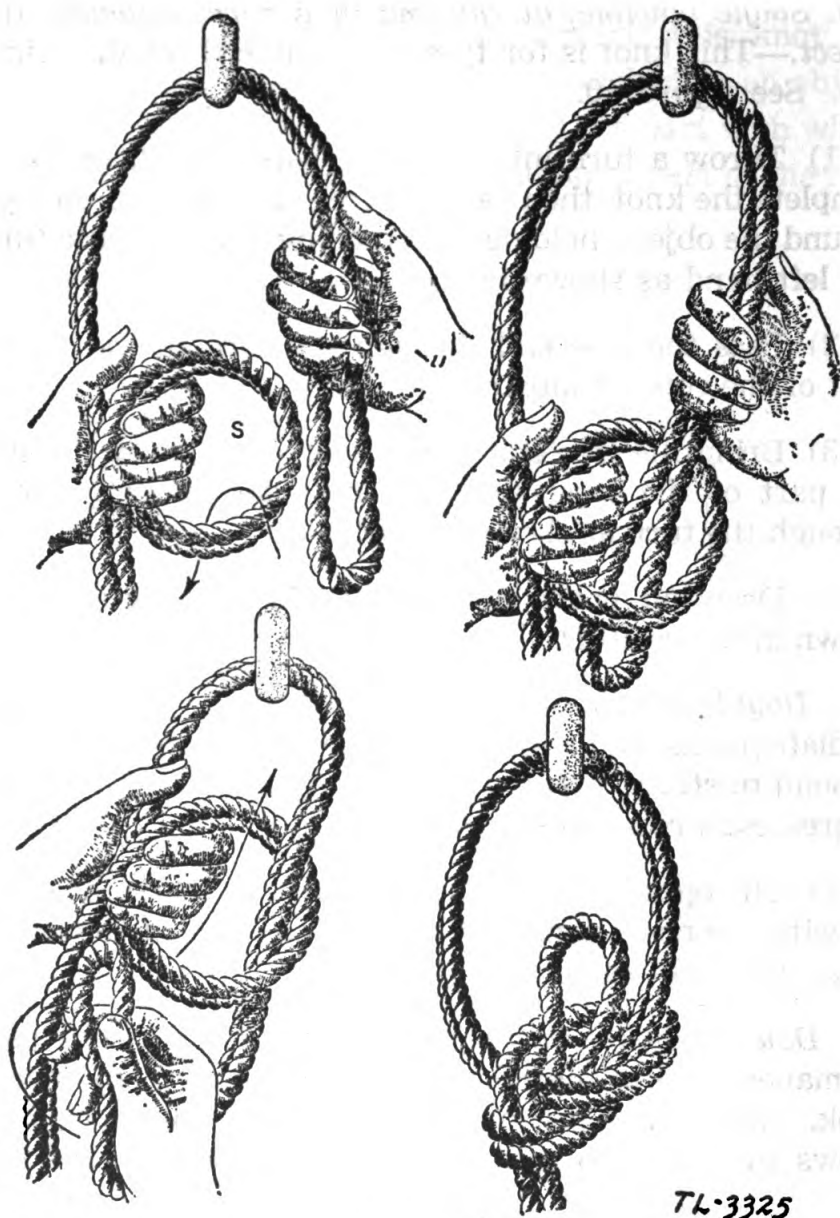
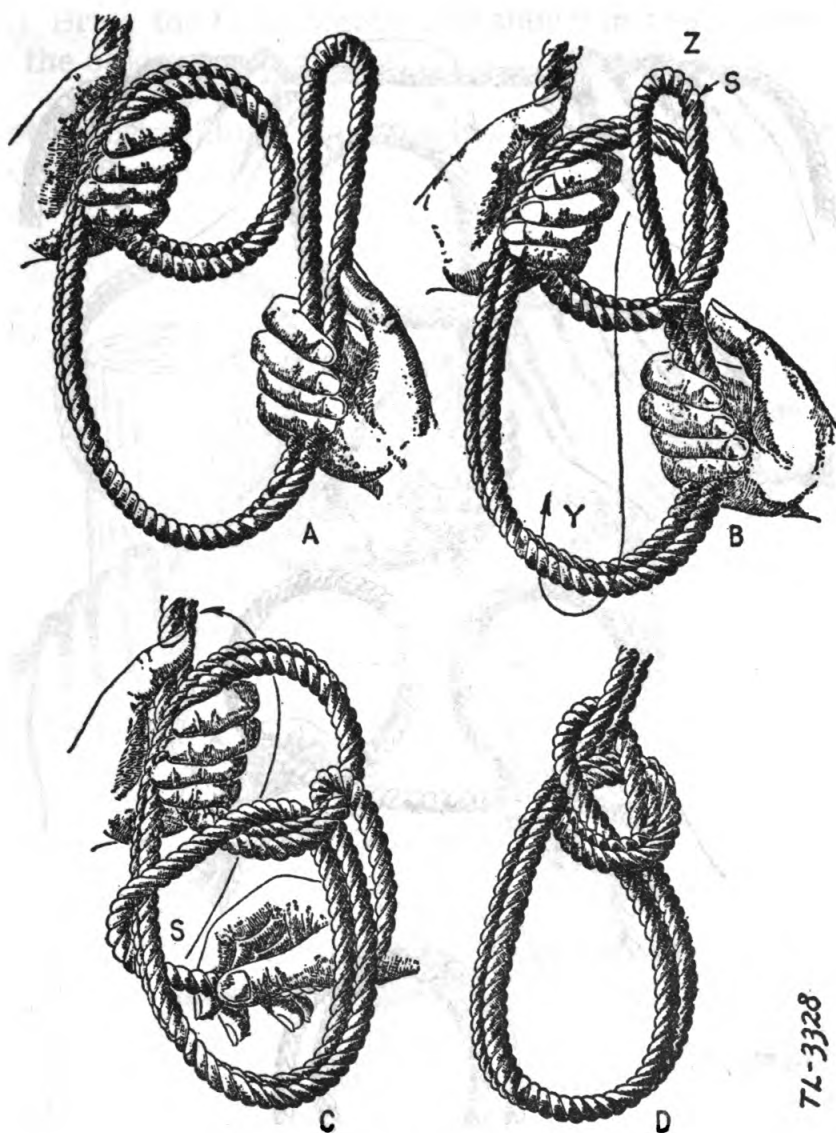

Figure 11
Figure 12
h. Double bowline.—This knot is used in tying at intermediate points, and allows two ropes to pass through the eye or point of strain, thereby doubling the strength at the point of greatest stress. See figure 11.
(1) The operations required to make this knot are identical with the operations of the single bowline, at the end of a rope, attached to an object.
i. Double bowline on a bight.—This knot is used as a semi-permanent eye in the middle or end of a rope, to engage a hook, clevis or some other similar fastening. This knot allows two ropes to pass through the fastening. See figure 12.
(1) Double the rope and throw a turn into it leaving sufficient end to complete the knot as shown in 12-A.
(2) Pass the end through the turn, as explained for a single type bowline, until the position shown at Z, is reached as shown in 12-B.
(3) Turn the bight S, down over the front and then up in back of turn Y as shown in 12-C.